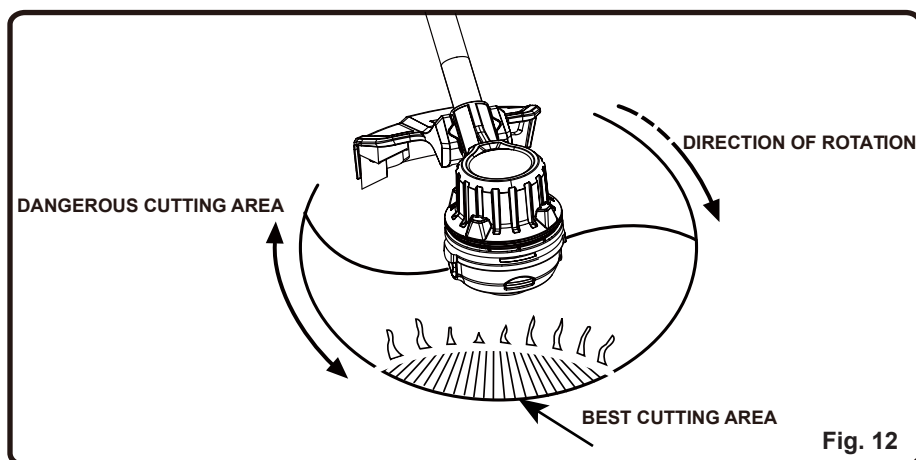

Fig. 12
CUTTING TIPS (See *Figure 12*.)
- The trimmer cuts when passing the unit from right to left. This will avoid throwing debris at the operator. Avoid cutting in the dangerous area shown in figure 12.